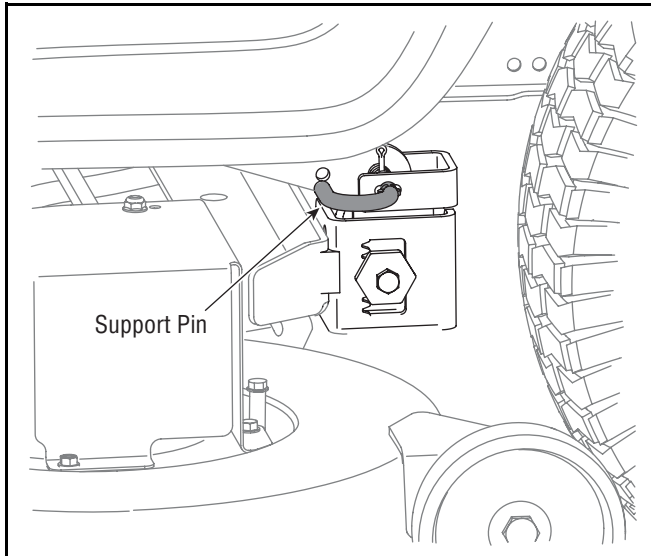

Figure 24
7. Pull the deck support pin outward to release the deck from the deck lift arm. See Figure 24.